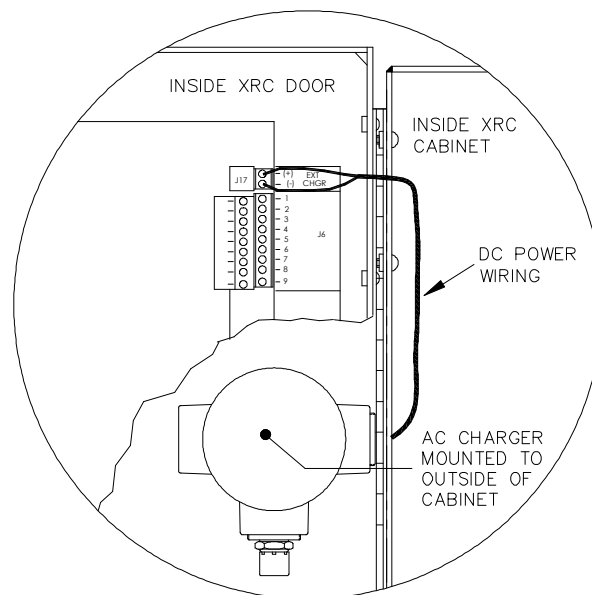

Figure 36: Mounting AC charger
2. Feed the AC charger DC power lines into the XRCG4. Allow enough cable to extend into the unit for connection to CHGR Input +/- terminals J17 on the main electronic board (see Figure 36).
5. Before connecting the charger wiring, trim wire ends back 1/4" and remove associated CHGR Input J17 terminal block from the digital board (see Figure 36).